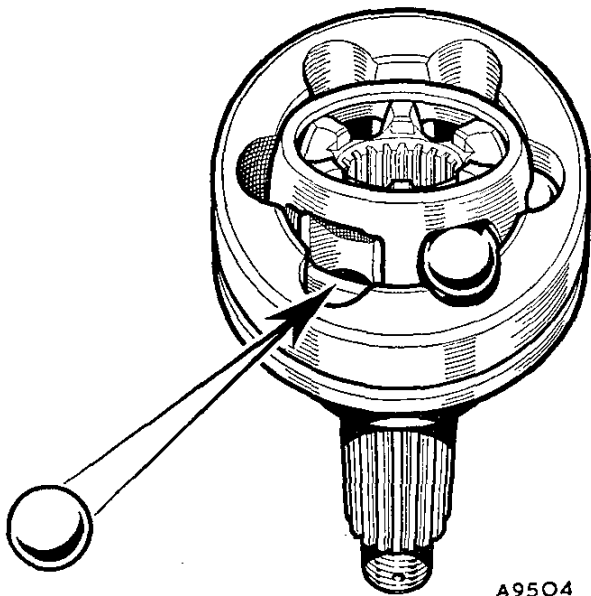
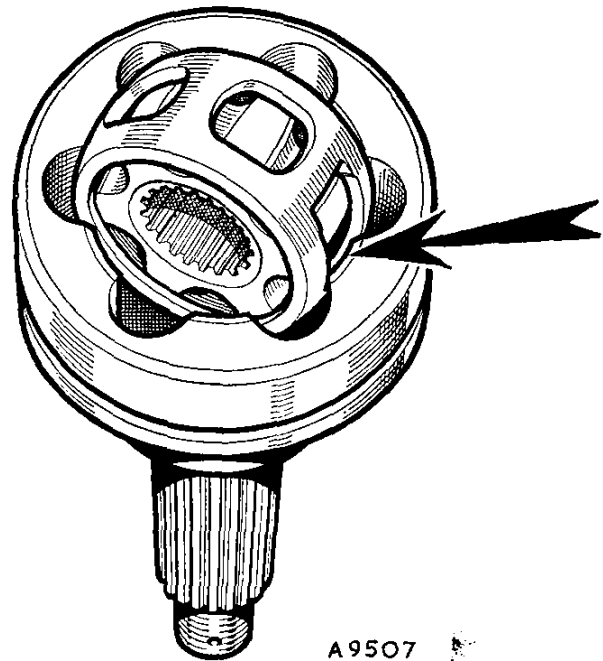

Fig. G.2
Fig. G.3
- (5) The joint should be dismantled only if there is reason to believe that it is still serviceable.
- (6) As the components are mated and have operated together, they must be kept in the same mating relationship. The relative positions of the inner and outer races and the cage should be marked with blue marker or a paint which will not wash off when the parts are cleaned.
- (7) With the shaft withdrawn the inner race can swivel freely, tilt the inner race until one ball is released (Fig. G.2). Note that the cage swivels through half the angle of the inner race. If the joint is sticky with grease each ball may be eased out in turn with a pointed tool.
- (8) Swivel the cage into line with the axis of the joint and turn it until two opposite elongated windows coincide with two lands of the bell joint. One land will drop into a window, allowing the cage and race assembly to be lifted out (Fig. G.3).
- (18) Insert the cage and inner race assembly into the bell joint by fitting one of the elongated windows over one of the lands in the outer race (Fig. G.3). The three parts can now be turned or swivelled freely in relation to each other.
- (19) Locate the cage and inner race in their original position relative to the bell join (as marked before dismantling).
- (20) Keeping this relationship between the parts, tilt the cage until one ball can be inserted in a window. Repeat this operation with the remaining balls (Fig. G.2).
- (21) Ensure that the inner race articulates freely with the cage in the bell joint, but care must be taken not to release the balls.
- (22) The joint should be filled with the remainder of the pack of Duckham's M-B grease, before inserting the shaft.
- (23) Fit a new rubber boot if necessary, smearing the inside with Duckham's M-B grease, take care when easing the boot over the circlip on the shaft.